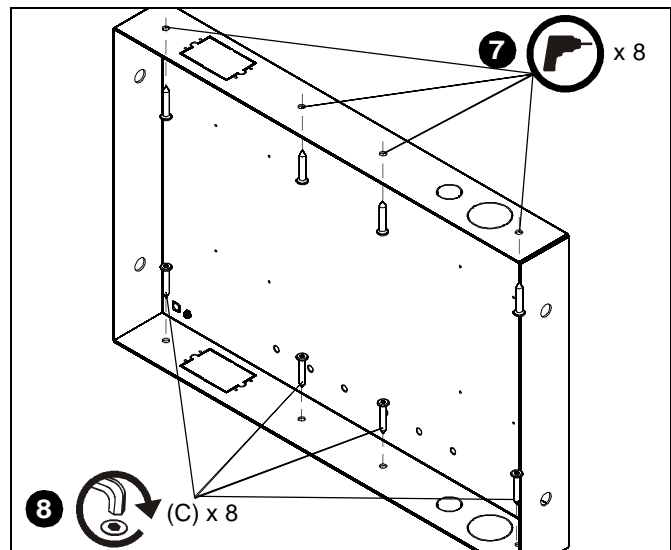

Figure 5
7. Drill eight 3/16" diameter pilot holes in horizontal framing at top and bottom mounting holes. (See Figure 5)
8. Attach the PAC-501 (A) to horizontal framing using eight M7 x 40mm Allen head connector screws (C) using an M4 Allen head drill bit (E). (See Figure 5)